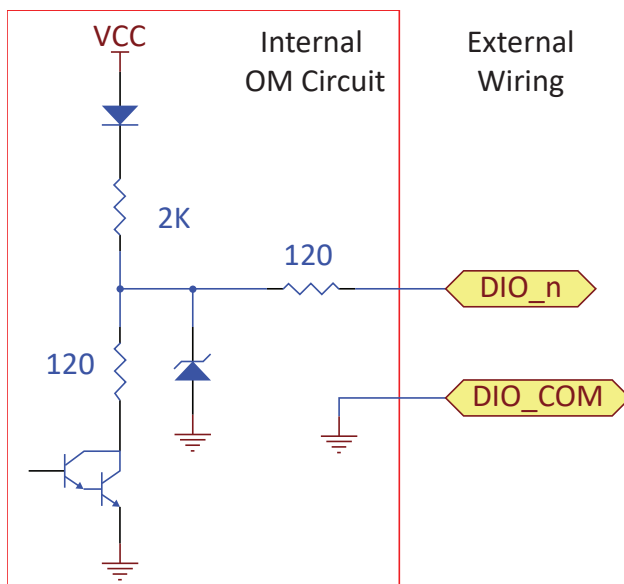

Figure 9
11.11.1 DIO outputs are compatible with IEC 61131-2 PLC high true PLC discrete inputs. Each DIO is pulled up to an internal 24V power supply by means of a $2.12K$ resistor which means the DIO is capable for delivering a high level output of 15V @ 3.3 mA (IEC 61131-2 compliant). No external power supply is required in this mode. Here is an example of a DIO being used as a PLC High True output. See *Figure 9*.